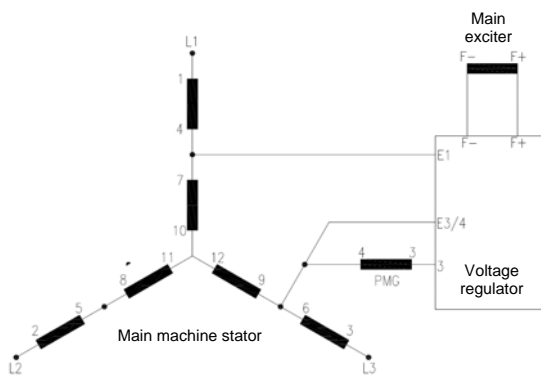

Figure 15.1:
2. By disconnecting the alternator voltage regulator, the cables will be available Figure 15.1;